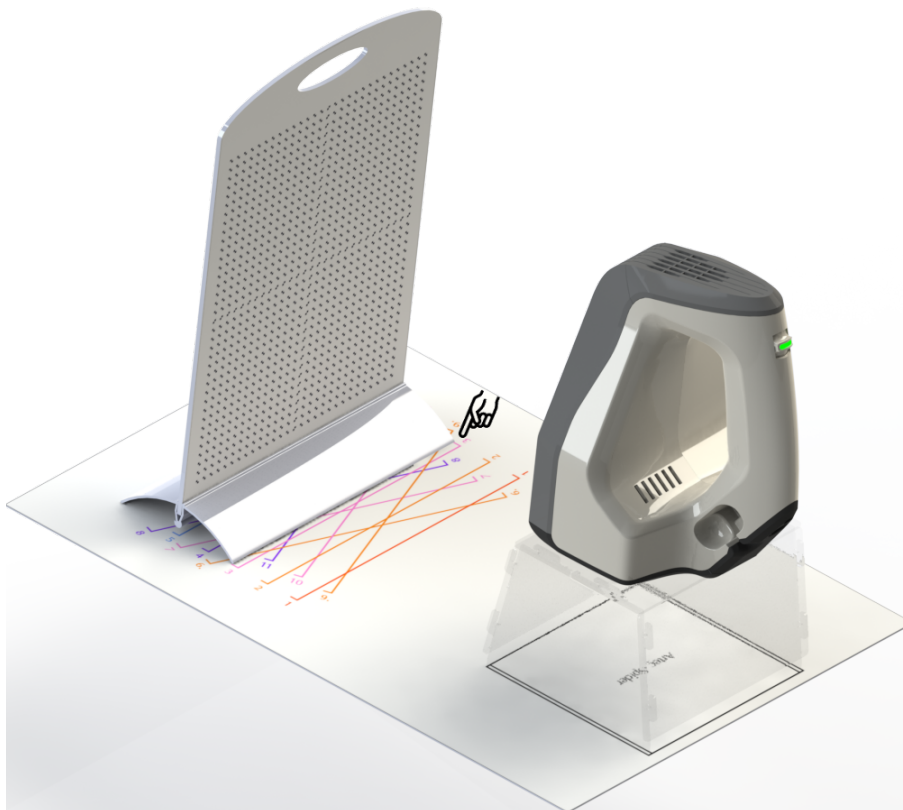

Figure 171: Calibration rig, positioning sheet and scanner stand with Artec Spider.
4. Set the calibration rig on the positioning sheet, turning its marker side towards the scanner as Figure 171 shows.